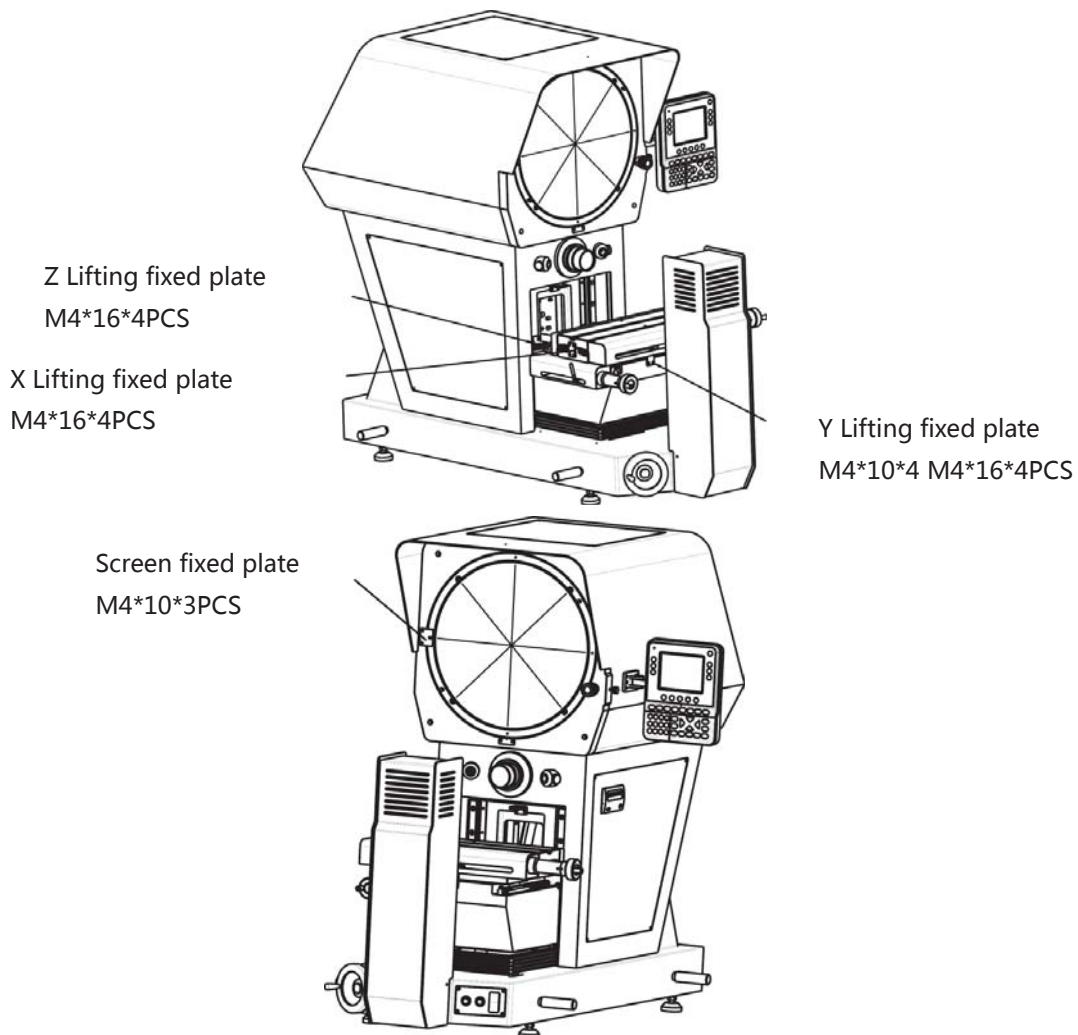

Fig 6 Unpack and Installation
- Remove the instrument outer packing box and the inner box, take out the instrument manual and read the contents of this section first. (Fig 6) .